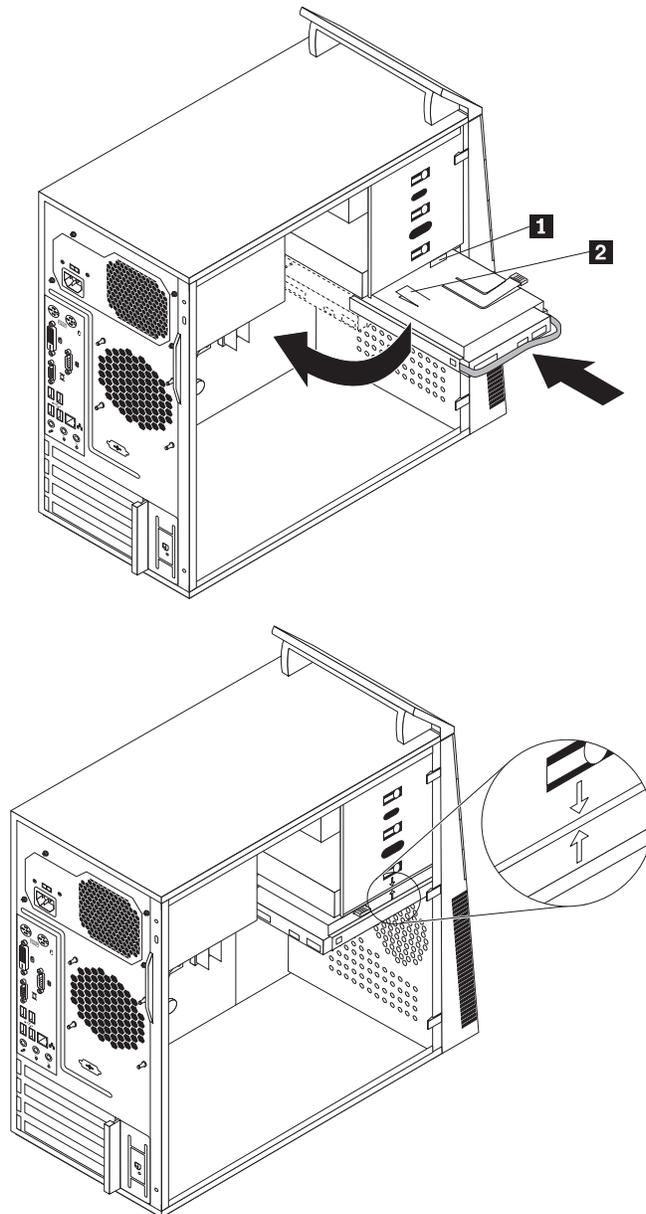

Figure 24. Installing the primary hard disk drive
9. Align the pivot pin on the hard disk drive cage with the slot **1** in the upper drive cage, as shown in Figure 24. Then, slide the drive cage with the new hard disk drive into the chassis.